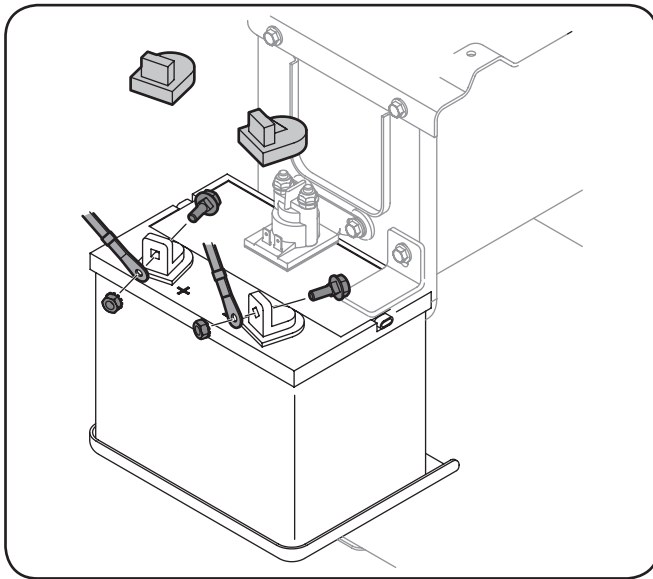

Figure 3-10
1. Remove the plastic cover, if present, from the positive battery terminal and attach the red cable to the positive battery terminal (+) with the bolt and hex nut using a $\frac{7}{16}$ inch wrench or socket wrench. See Figure 3-10.
2. Remove the plastic cover, if present, from the negative battery terminal and attach the black cable to the negative battery terminal (-) with the bolt and hex nut $\frac{7}{16}$ inch wrench or socket wrench. See Fig. 3-10.